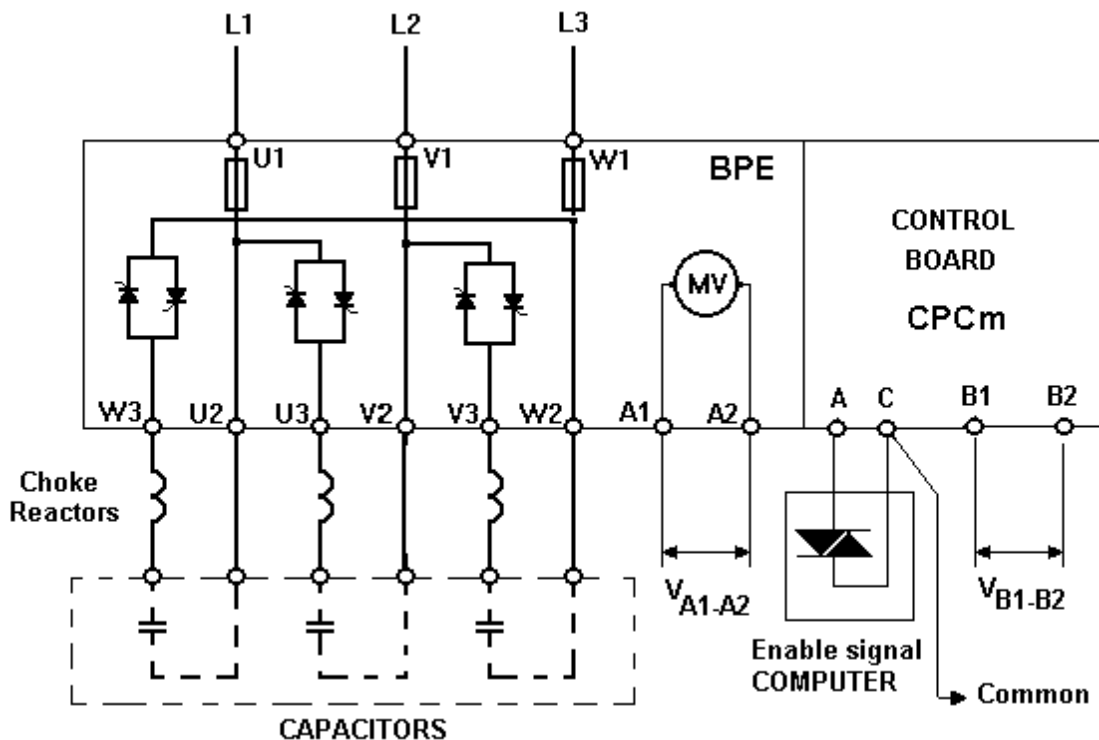

Figure 2.- Basic wire diagram for a three phase EM module.
- For this application the three phase EMF or EMB modules must be used together with three single phase capacitors or a three phase capacitor with 6 terminals (internally built as three single phase caps.). The connection of each EM module to the corresponding step of capacitors must be as shown in figure 2.
All the EM modules consist of two basic blocks: (See figures 2 and 3).
- Check that the connections between the EM modules and the capacitors correspond to one of the figures 2 or 3 (three phase or single phase).